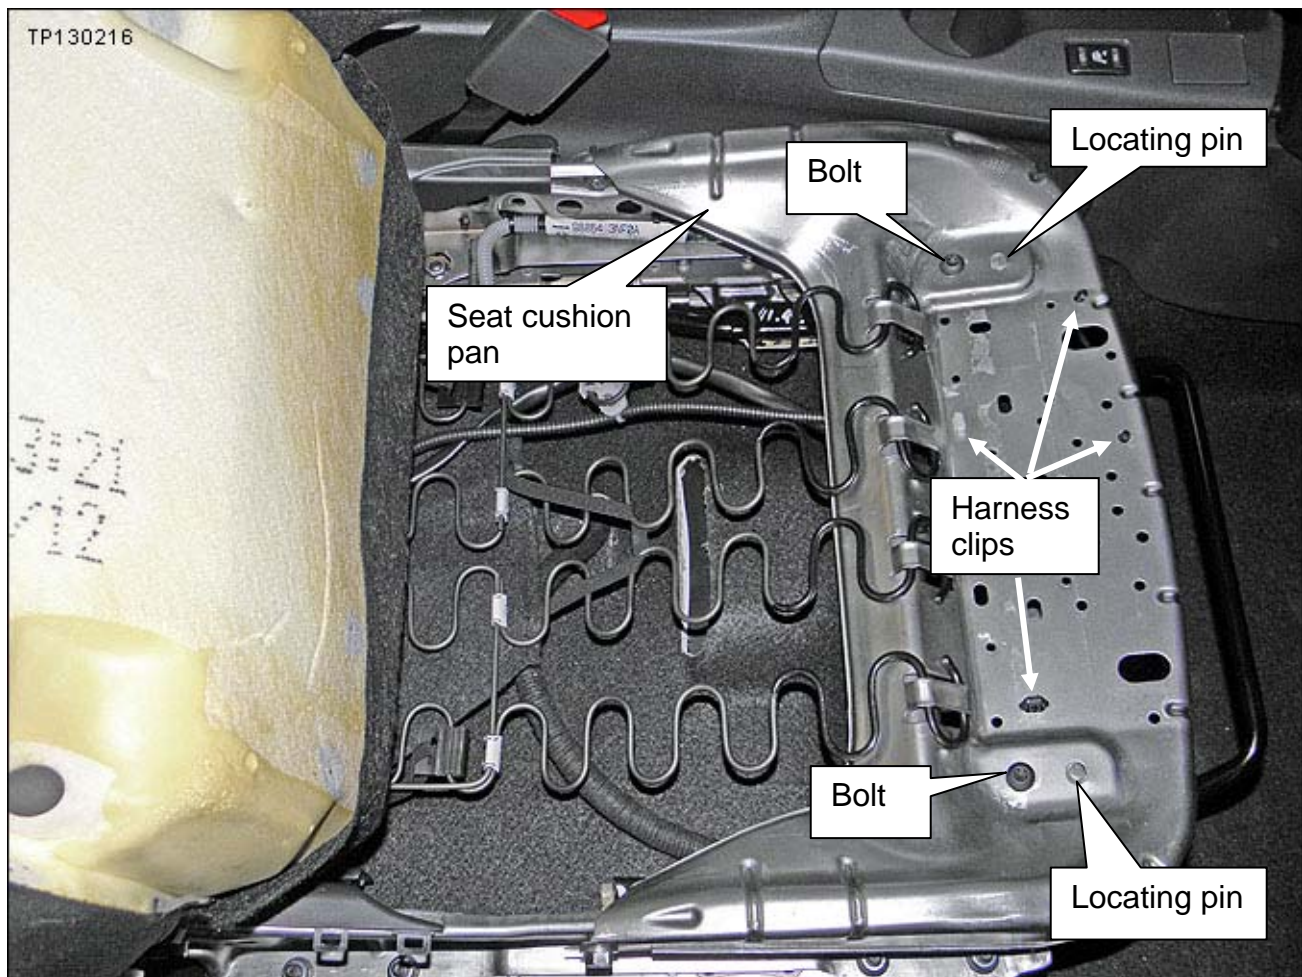

Figure 25
32. Install **new** Torx® head bolts shown in Figure 25.
33. Connect the 4 harness mounting clips shown in Figure 25.